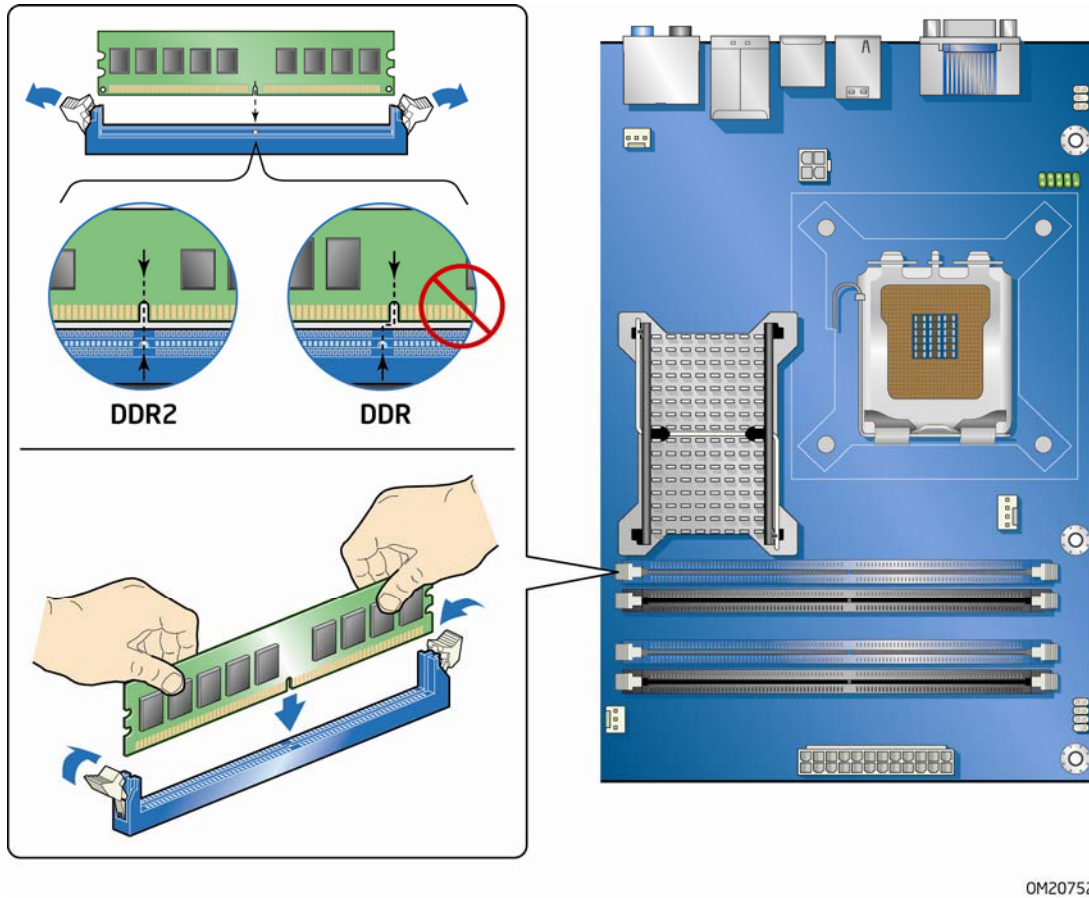

Figure 17. Installing a DIMM
3. Remove the computer's cover and locate the DIMM sockets (see Figure 17).
6. Position the DIMM above the socket. Align the small notch at the bottom edge of the DIMM with the keys in the socket (see inset in Figure 17).